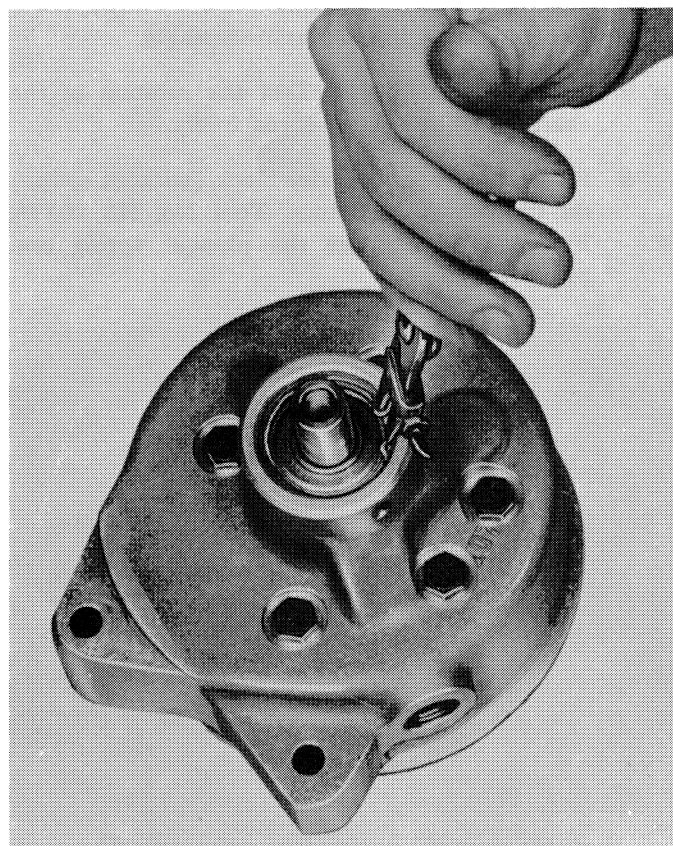

Figure 8—Removing Snap Ring from Pump Bearing Cap
11. Remove the snap ring from the bearing cap, Figure 8.